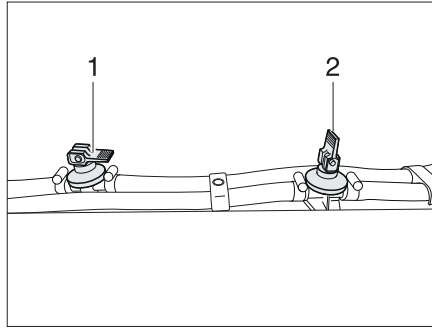

Fig. 376 Drain cock
- Open all drain cocks. To do so, set the rocking lever (in Fig. 376,2) in a vertical position.